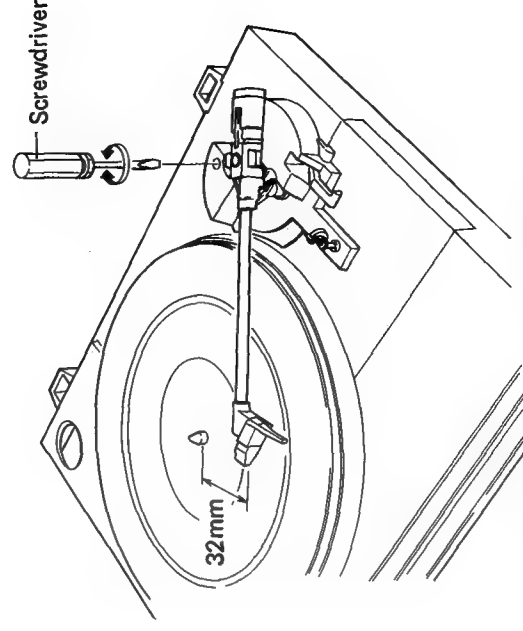

Fig. 10-1 Auto-return adjustment
5. Stop turning the adjustment screw at the point at which there is a space of 32 mm between the cartridge stylus and the center shaft. (Fig. 10-1)